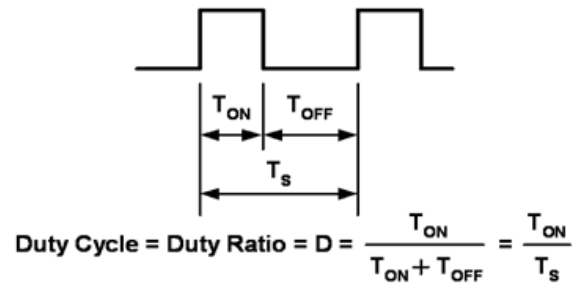

Figure 13.
generate audible sound. Dimming is achieved by turning the LEDs on and off for a portion of a single cycle. This on/off cycle is called the Duty cycle (D) and is expressed by the amount of time the LEDs are on (T_{ON}) divided by the total time of an on/off cycle (T_s) (Figure 13).